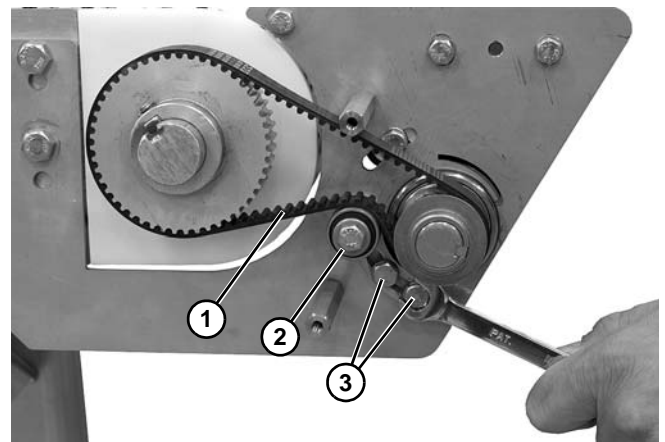

Figure 82
12. Route and install belt (**Figure 82, item 1**) as shown. Press up on tensioner (**Figure 82, item 2**) and tighten two hex head screws (**Figure 82, item 3**).